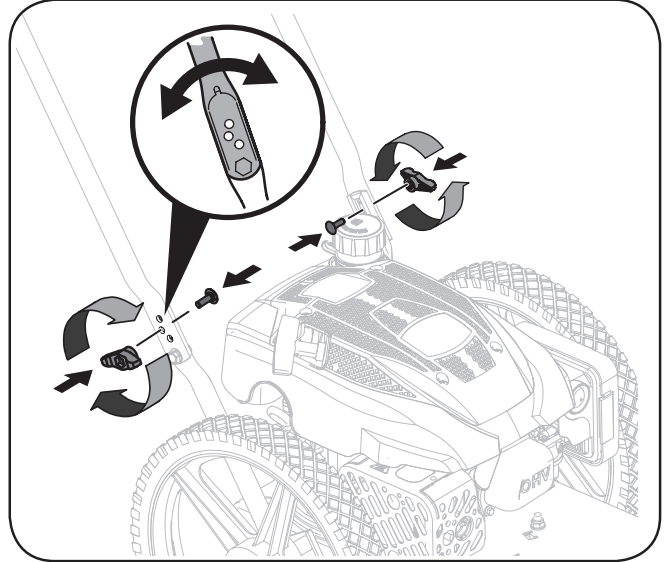

Figure 2
3. Secure the upper handle in one of three positions using knobs and bolts. Make sure the knobs are placed at the outside of handle (Figure.2).